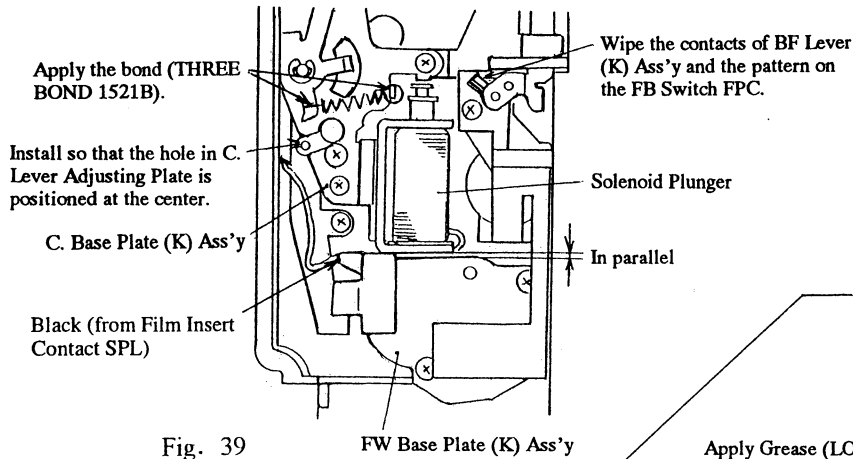
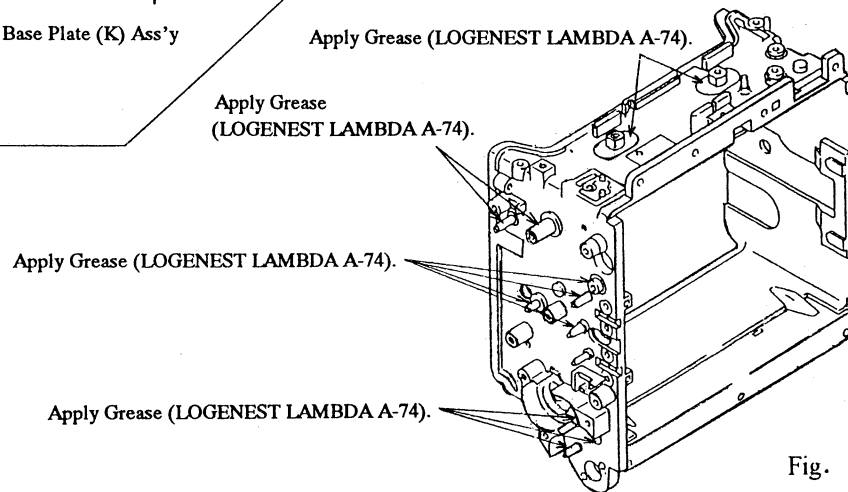

Fig. 39
Fig. 40
- 10) Unsolder the Black lead wire (from Film Insert Contact SPL) on the Conduction Sub Plate (3CU16600). (See Fig. 39)
- 11) Peel off the Acetate Cloth Tape, remove the FW Base Plate (K) Ass'y Setscrews (69313076) \times 3 and take off the Conduction Sub Plate (3CU16600), FW Base Plate (K) Ass'y (1AUD0100) and FW Gear (1) (1AU35100).
- 12) Remove the E Ring (E-1.2) (66101225) and take off the BF Lever (K) Ass'y (1AUD0400).
- a) Apply Grease (LOGENEST LAMBDA A-74) to the specified positions. (See Fig. 40)
- b) Press the P. Gear (6) (1AU36700) gently and make certain that the P. Gear (6) returns to the original position by the force of the P. Gear Spring (1AU36900).
- c) After installing the C. Base Plate (K) Ass'y (1AUD2600), check to see if the Solenoid Plunger (1AU54100) and the FW Base Plate (K) Ass'y (1AUD0100) are in parallel with each other. (See Fig. 39)
- d) Once the C. Base Plate (K) Ass'y (1AUD2600) or C. Ratchet Ass'y (1AUD1100) has been replaced with a new one, make the adjustment of the C. Base Plate (K) Ass'y (Counter Gear). (See page B-35)
- e) Before installing the BF Lever (K) Ass'y (1AUD0400), wipe its contacts and the pattern on the FB PC-FPC. (See Fig. 39)
- Install the C. Lever Adjusting Plate (1AUD1600) on the C. Base Plate (K) Ass'y (1AUD2600) so that the hole in the C. Lever Adjusting Plate is positioned at the center of the cut portion of the C. Base Plate (K) Ass'y. (See Fig. 39)
- Install the Solenoid Plunger (1AU54100) in such a position that the Solenoid Plunger is in parallel with the C. Base Plate (K) Ass'y (1AUD2600).